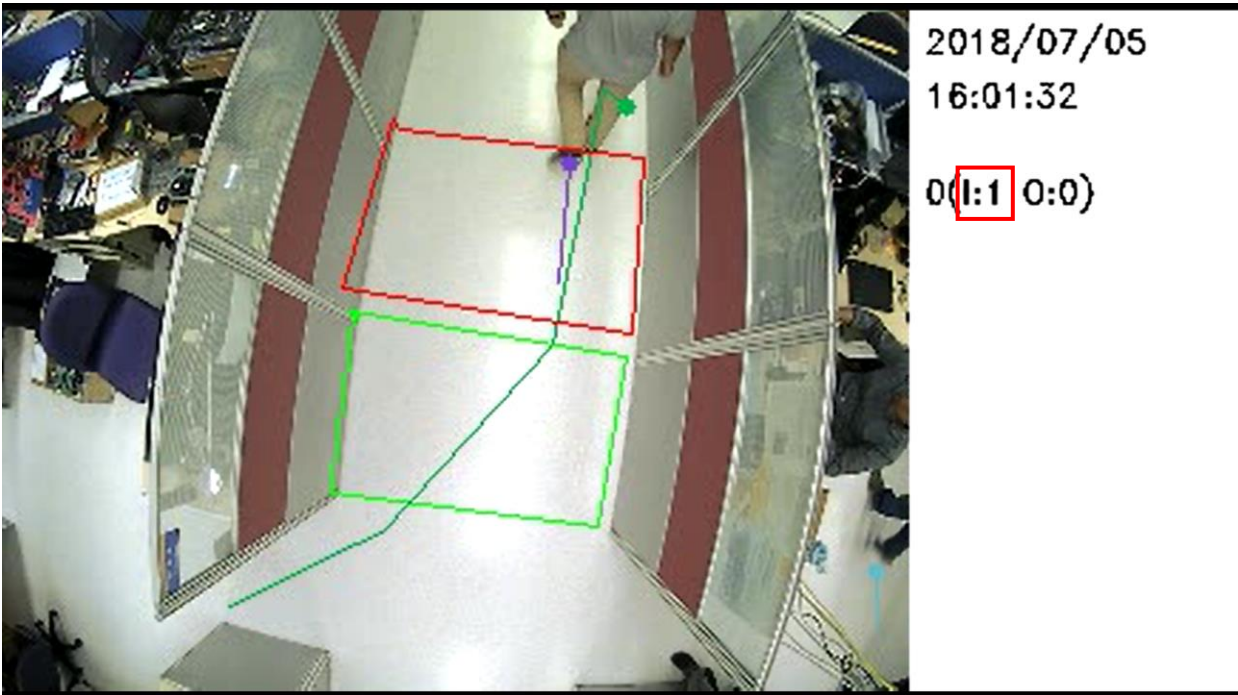

Figure-36, The object counts as one IN traffic
(5) The object counts as one IN traffic (Figure-36).